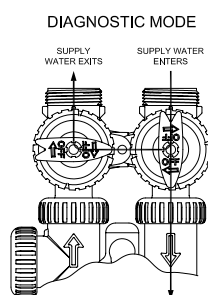

FIGURE 5
- If using optional bypass **SLOWLY** turn bypass valve to **DIAGNOSTIC MODE** (Fig. 5) or slowly open inlet valve to allow water to slowly enter the filter.